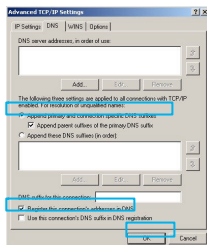

Figure 6
6. Select the [DNS] tab and check that the Append primary and connection specific DNS suffix is selected. Click OK. (Figure 6)